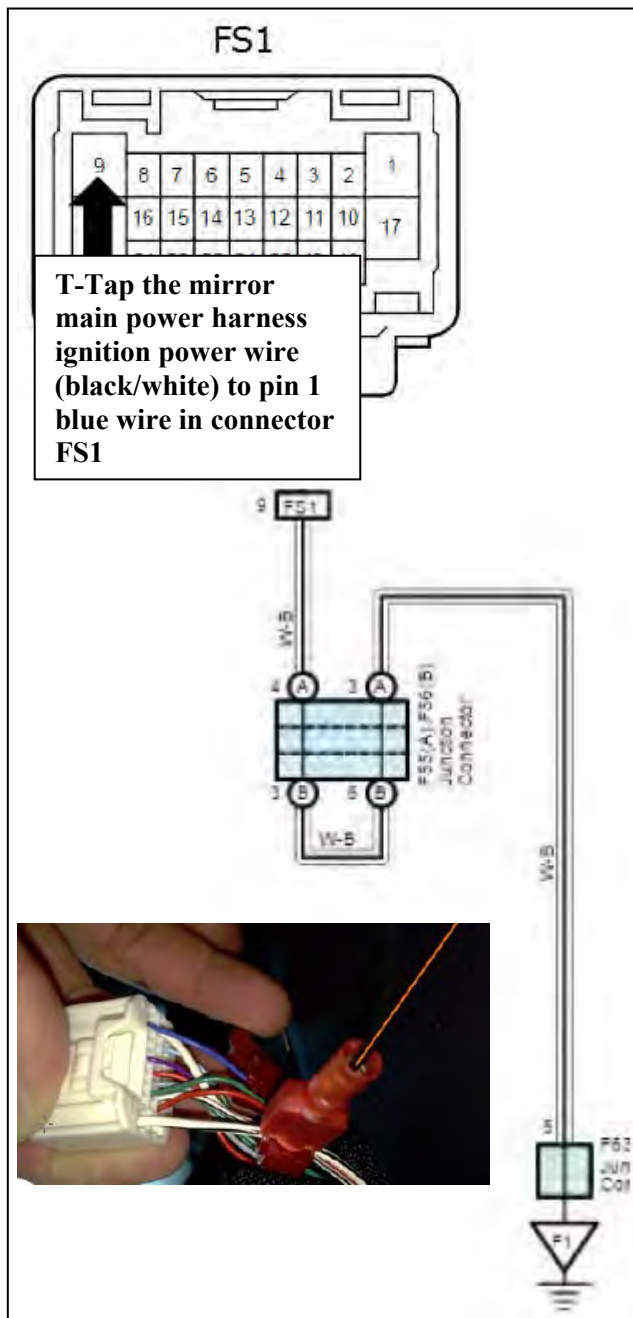

Figure 16
16. T-Tap the mirror main power harness ignition power wire (black/white) to pin 1 blue wire in connector FS1. See Figure 16.